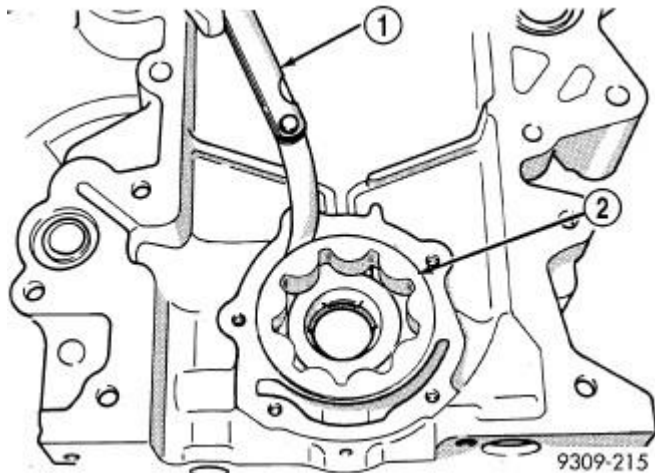

Fig. 177: Measuring Outer Rotor Clearance In Housing
5. Install outer rotor into chain case cover. Press rotor to one side with fingers and measure clearance between rotor and chain case cover. Refer to **Fig. 177**. If measurement is 0.39 mm (0.015 in.) or more, replace chain case cover, only if outer rotor is in specification.